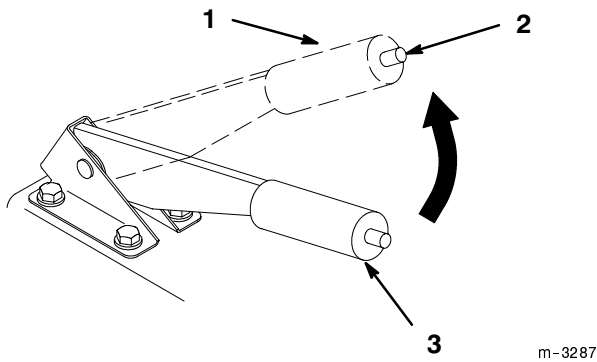

Figure 9
2. Pull up on the parking brake lever to set the parking brake (Fig. 9). The parking brake lever should stay firmly in the “SET” position.
1. Push in on the button and lower parking brake lever to “OFF” (Fig. 9).